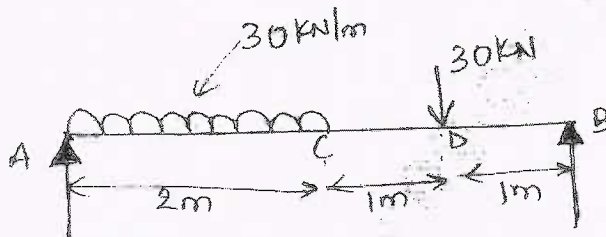

Fig. Q6 (a)
- 6 a. A simply supported beam is subjected to a UDL of  $30 \text{ kN/m}$  together with a point load of  $30 \text{ kN}$  as shown in Fig. Q6 (a). Draw SFD and BMD. Find also point of zero shear and its corresponding BM.